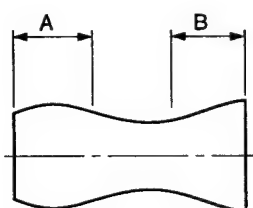

Fig. 1-7-7 Adjusting section
4. If the A section in Fig. 1-7-7 does not meet the specifications, adjust the S guide roller in up or down direction.
5. If the B section in Fig. 1-7-7 does not meet the specifications, adjust T guide roller in up or down direction.